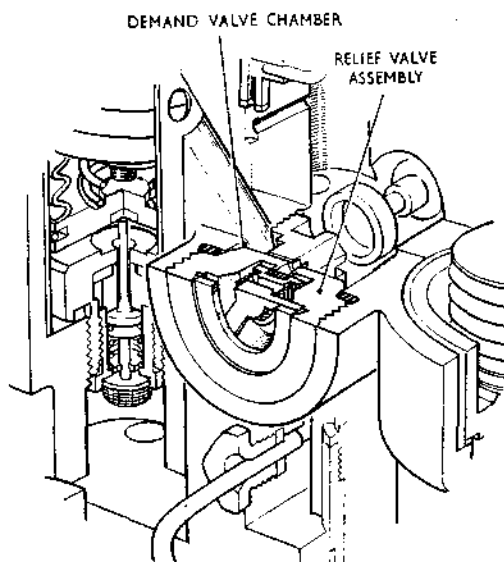

Fig. 1. Relief valve
1. The Mk. 17E regulator is similar to the unit described in Chap. 1, but is fitted with a modified pressure reducer and incorporates a demand valve chamber relief valve assembly (fig. 1) which is fitted in place of the demand valve chamber plug.